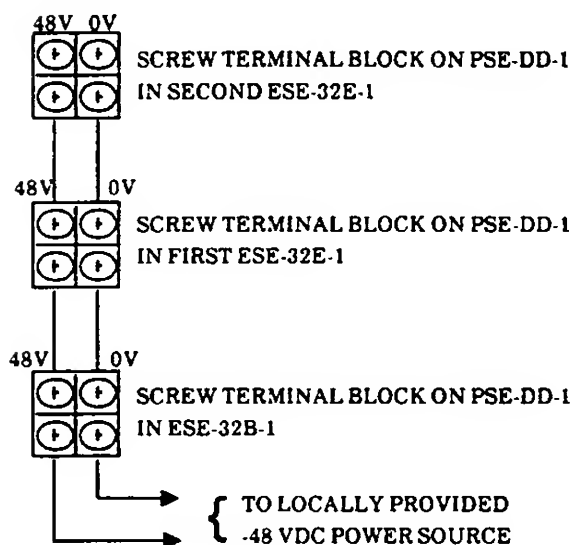

Figure 250-5 Interconnection of PSE-DD-1 PSU.
E. One screw terminal block provided with four screws is located on the lower front of each PSE-DD-1 PSU. Connect three PSE-DD-1 PSUs using locally provided cables, as shown in Figure 250-5.